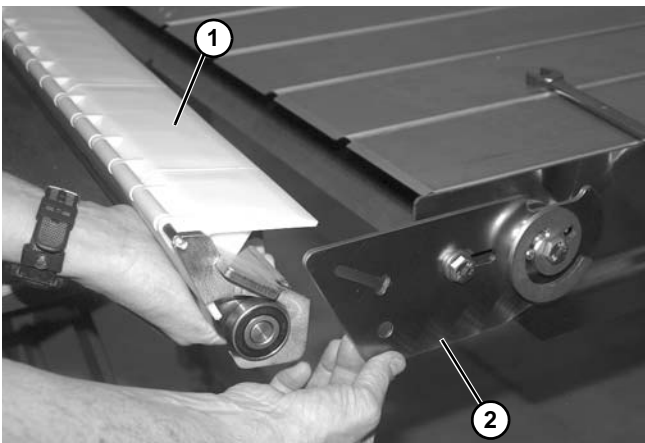

Figure 141
4. Slide and remove the nose bar idler (Figure 141, item 1) off each pivot tail bracket (Figure 141, item 2).